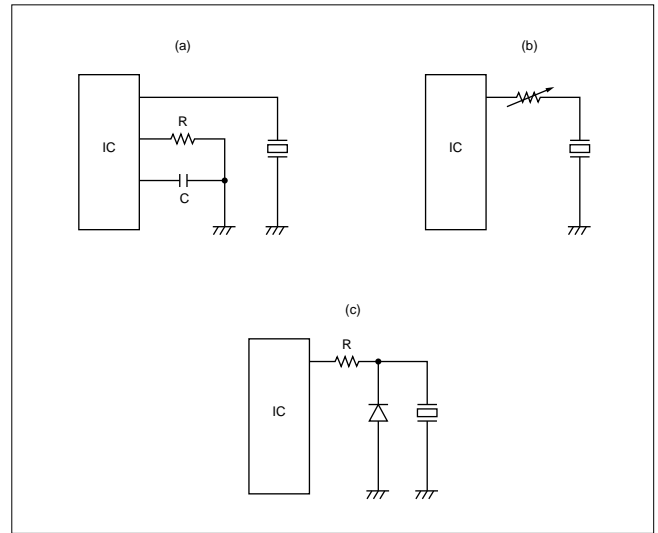

Fig. 8 Circuits for Piezo Ringers
- iii) If tone is distorted as described in Fig. 8 (a), place a resistor in series to vary resistance as described in (b) and select a resistance with which the distortion can be eliminated. The recommended resistance is in a range between 1kohms to 2kohms. Alternatively, it is recommended to place a diode in parallel with the piezo ringer.